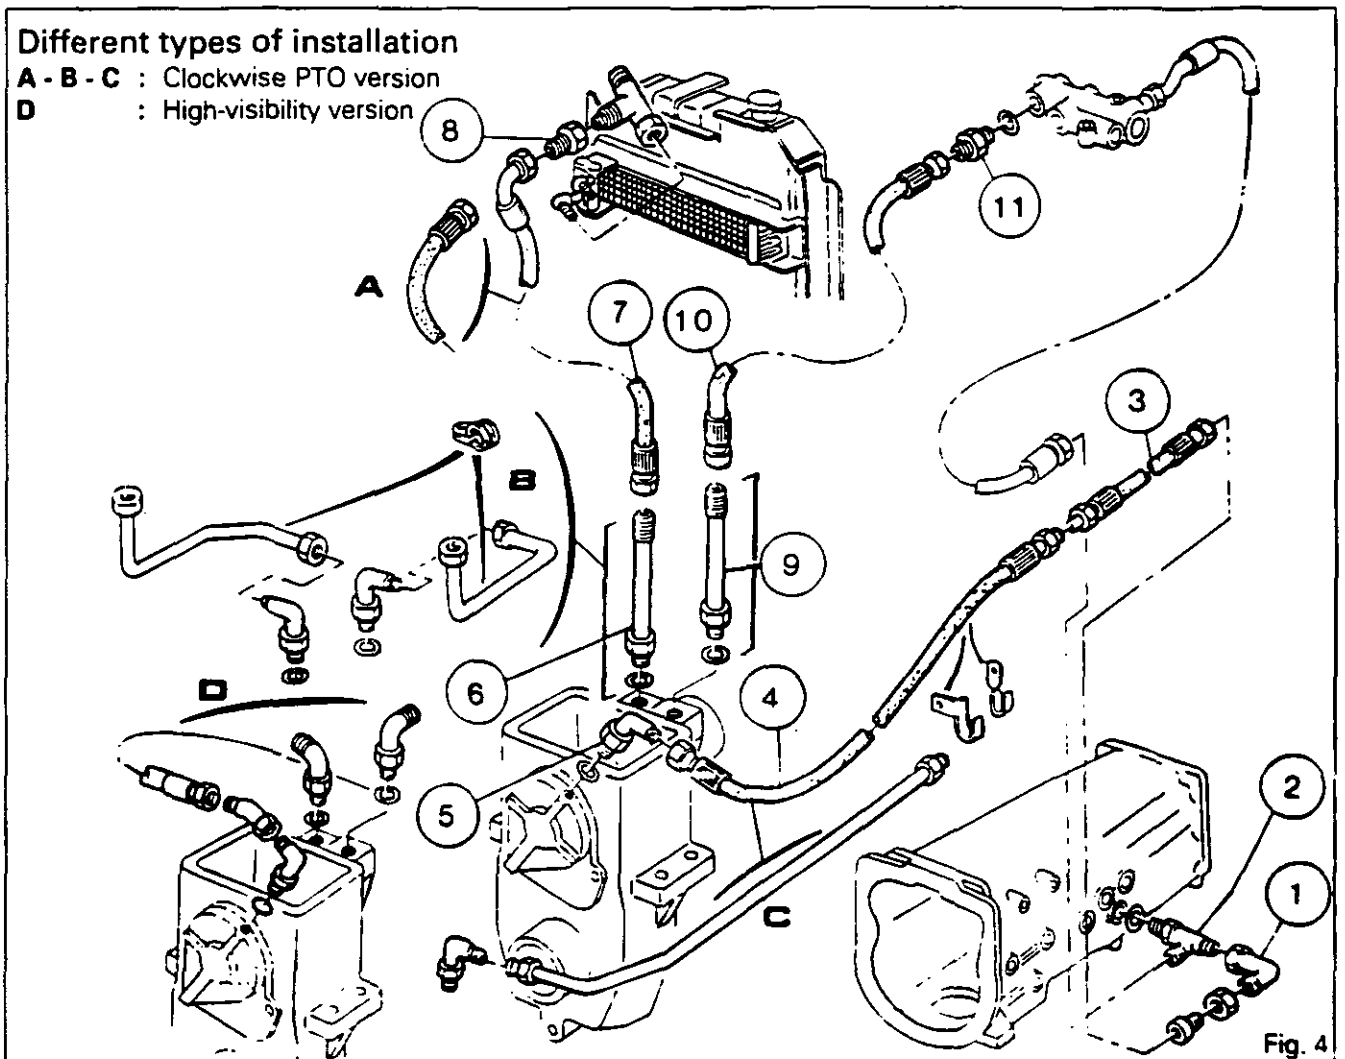

Fig. 4
16. Assemble the hub (8), bush (9) and shaft (7) (tighten the hub to a torque of 36 - 46 Nm.)
17. Position the vibration damper (10) and coupling (11).
18. Fit the coupling sleeve (6), positioning it away from the end of the shaft (7).
19. Fit the elbow unions on the PTO unit (Fig. 4).
23. Connect up the hose to the oil cooler on the lower outlet. Fit the jet (8) (Fig. 4).